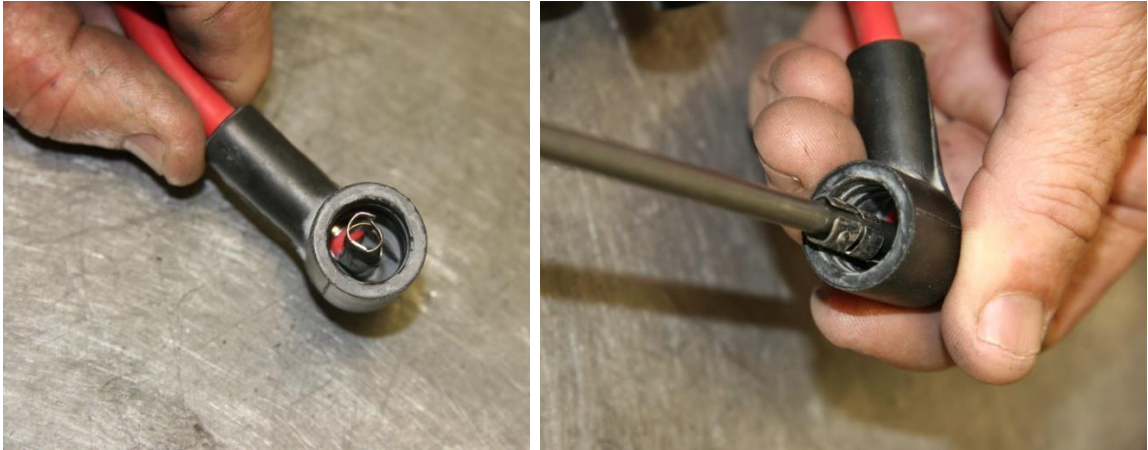

Figure 112 – Adjusting High Tension Lead Caps
- Check the fit of the high-tension lead caps onto the distributor and spark plugs. Visually check the metal contacts inside the caps. If the fit is loose or if the contact is visibly damaged as shown in Figure 112 then a screwdriver or similar must be used to re-shape the contact (it should be round) and to re-size it for a better fit – for a spark plug the diameter of the contact needs to be reduced to tighten while for a distributor cap it needs to be expanded. Each cap should fit with a clear "click" as it connects to the distributor cap or spark plug.